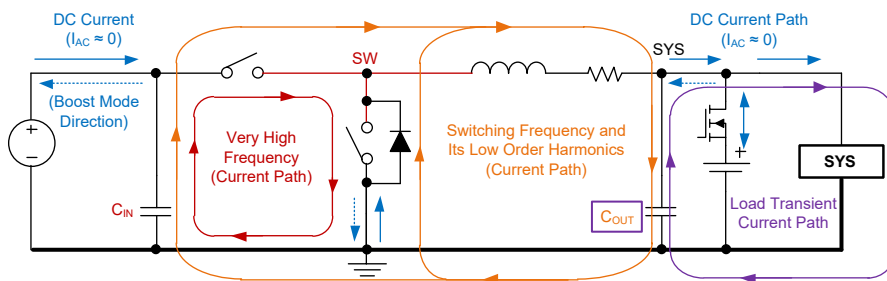

Figure 21. The Paths and Loops Carrying High Frequency, DC Currents and Very High Frequency (for Layout Design Consideration)
The switching node (SW) creates very high frequency noises, which are several times higher than f_{SW} (1.5MHz) due to sharp rise and fall of the voltage and current in the switches. To reduce the ringing issues and noise generation, it is important to design a proper layout for minimizing the current path impedance and loop area. A graphical guideline for the current loops and their frequency content is provided in Figure 21. The following considerations can help to make a better layout.